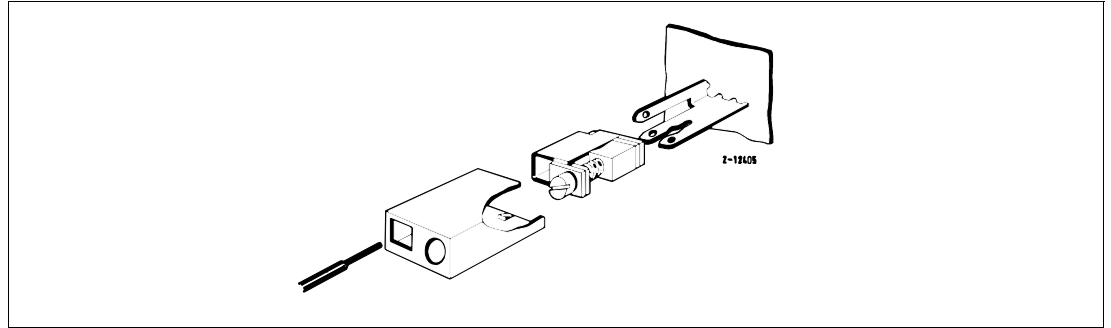

Fig. 3-9 Fitting a screw terminal
- Connect measuring circuits at screw terminals (see Fig. 3-9)
- Connect measuring circuits to screw terminals (see Fig. 3-9